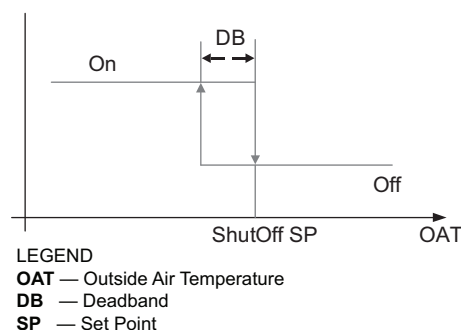

Fig. 83 — Hysteresis Settings
Hysteresis setting (DB) defaults to 2°F (–17°C). See Fig. 83.